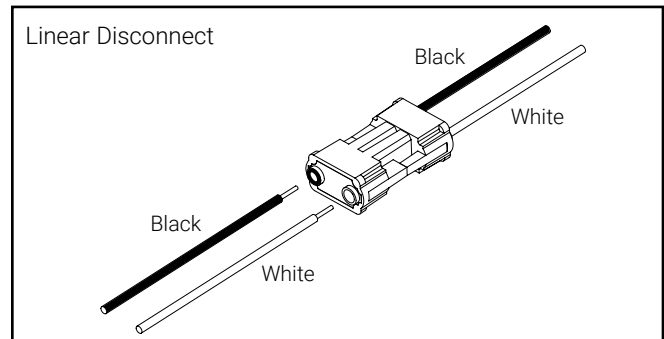

Figure 3.
5. Make necessary wiring connections to driver AC line input. A Linear Disconnect is provided to speed installation (Figure 3). Optional DALI or 0-10V dimming circuits are wired.